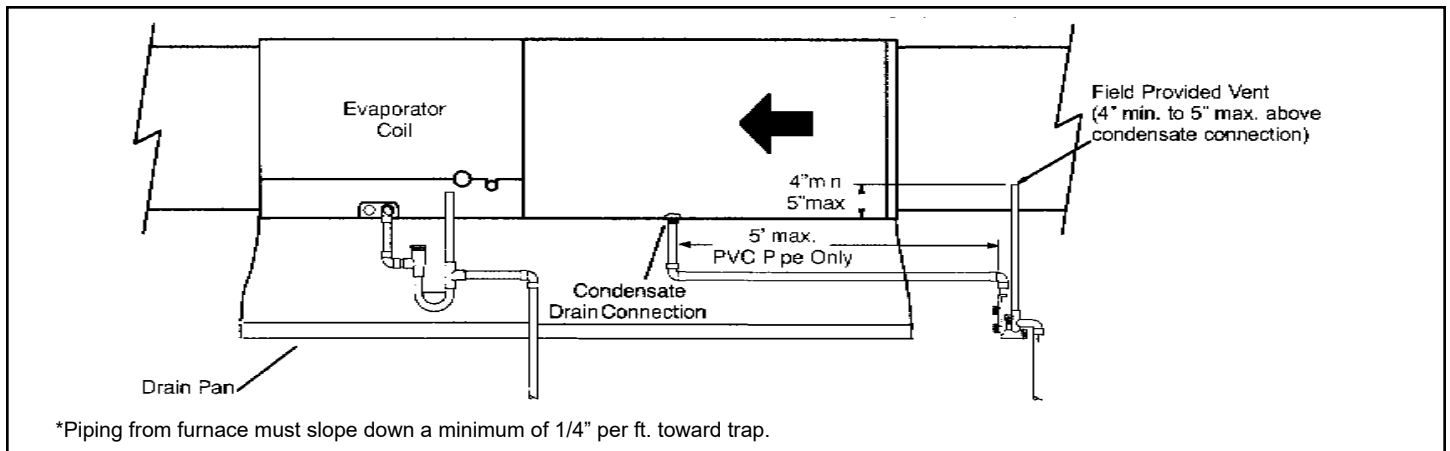
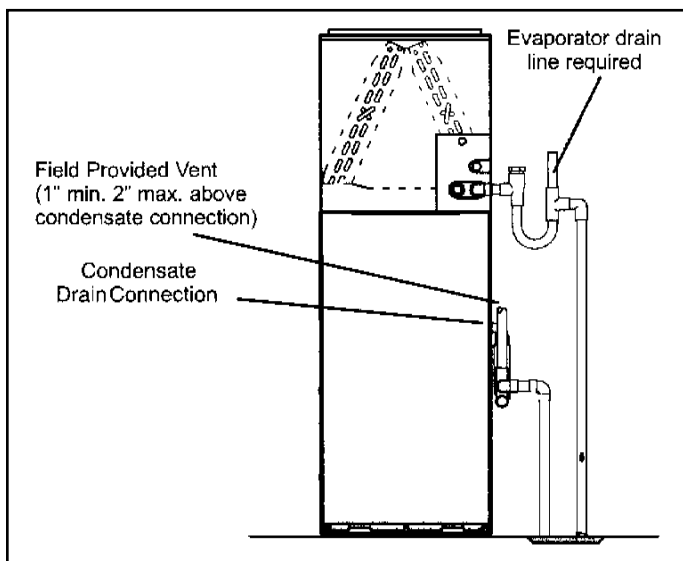
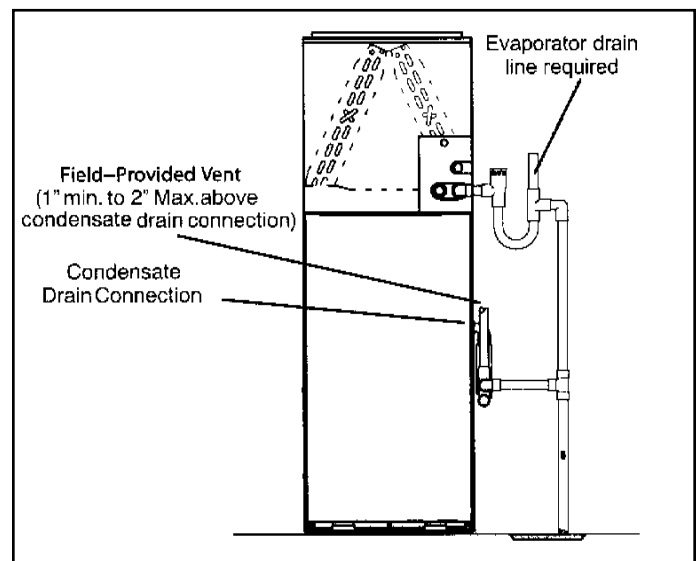

Figure 55. Condensate Trap Locations
Figure 56. Unit with Evaporator Coil
Figure 57. Evaporator Coil Using a Common Drain
This unit is designed for either right or left side exit of condensate piping in upflow applications. In horizontal applications, the condensate trap must extend below the unit. An 8" service clearance is required for the condensate trap. Refer to Figure 52 and Figure 55 for condensate trap locations. Figure 59 shows trap assembly using 1/2" PVC or 3/4" PVC.
5. Figure 55 and Figure 56 show the furnace and evaporator coil using a separate drain. If necessary, the condensate line from the furnace and evaporator coil can drain together. See Figure 57 and Figure 58.
Horizontal furnace (Figure 55) - In horizontal furnace applications, the field provided vent must be minimum 4" to a maximum 5" length above the condensate drain outlet connection. Any length above 5" may result in a flooded heat exchanger if the combined primary drain line were to become restricted.
When testing pressure of gas lines, gas valve must be disconnected and isolated. See Figure 57. Gas valves can be damaged if subjected to pressures greater than 1/2 psig (3.48 kPa).